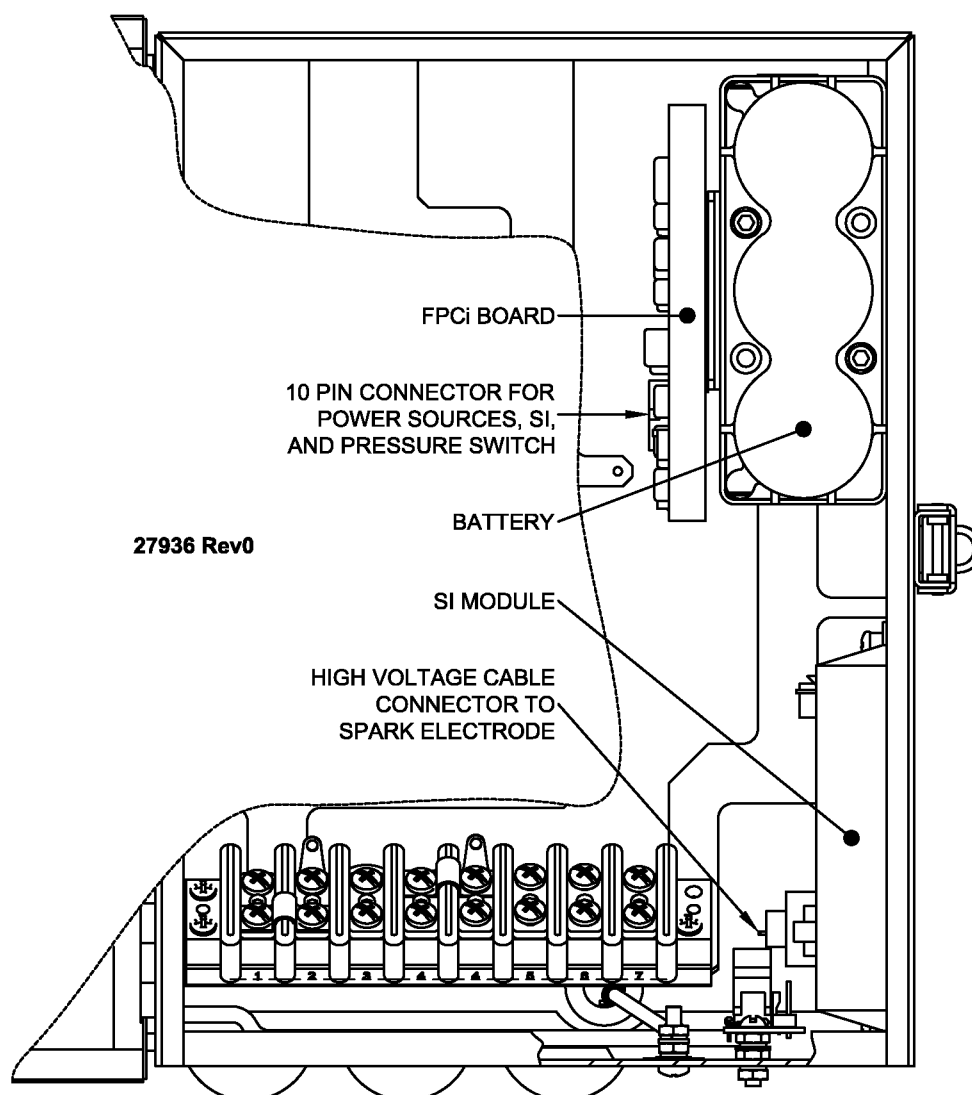
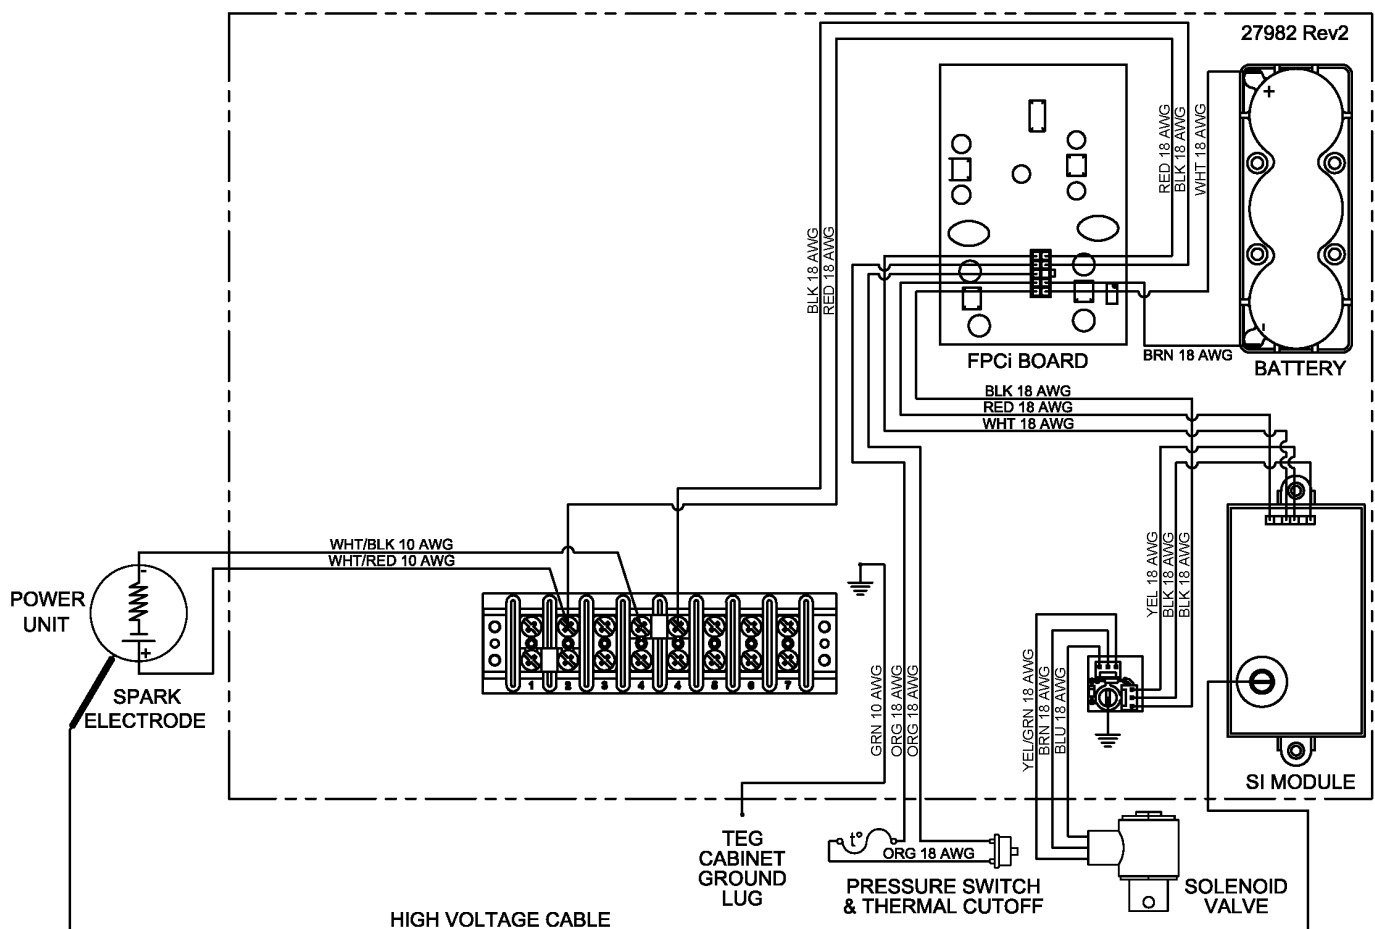

Figure 31 – Spark Ignition Components in Electronics Box
Figure 32 – Spark Ignition Control Module Wiring Diagram
Refer to Figure 31 and Figure 32, check the internal battery connection to make sure it is connected to the system.
1. Remove the two orange wires from the pressure switch. See Figure 32 and Figure 38.
2. See Figure 31 and Figure 32, locate the battery and make sure the battery is connected to the system. Then measure the battery voltage.
2. Upon start up, probe and measure following voltages (see Figure 31 and Figure 32):